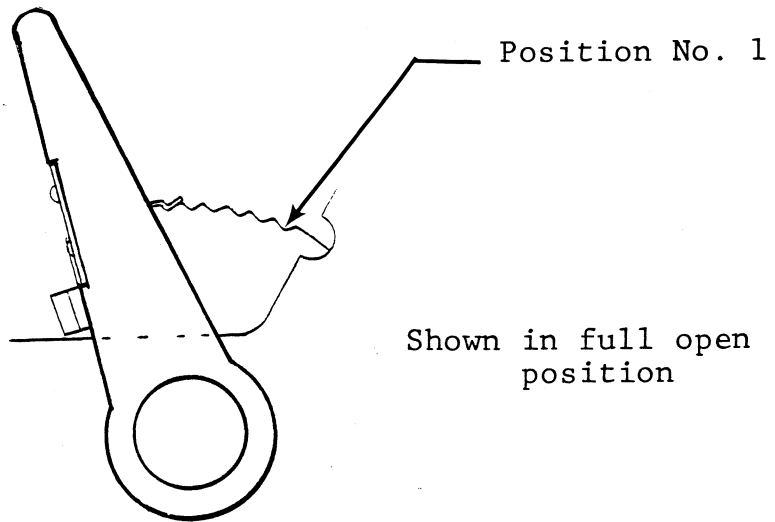

FIGURE 2-1 PRINT HEAD GAP ADJUSTMENT LEVER
4. Pull the head gap adjustment lever (see Figure 2-1) to its maximum open position (nearest the operator).